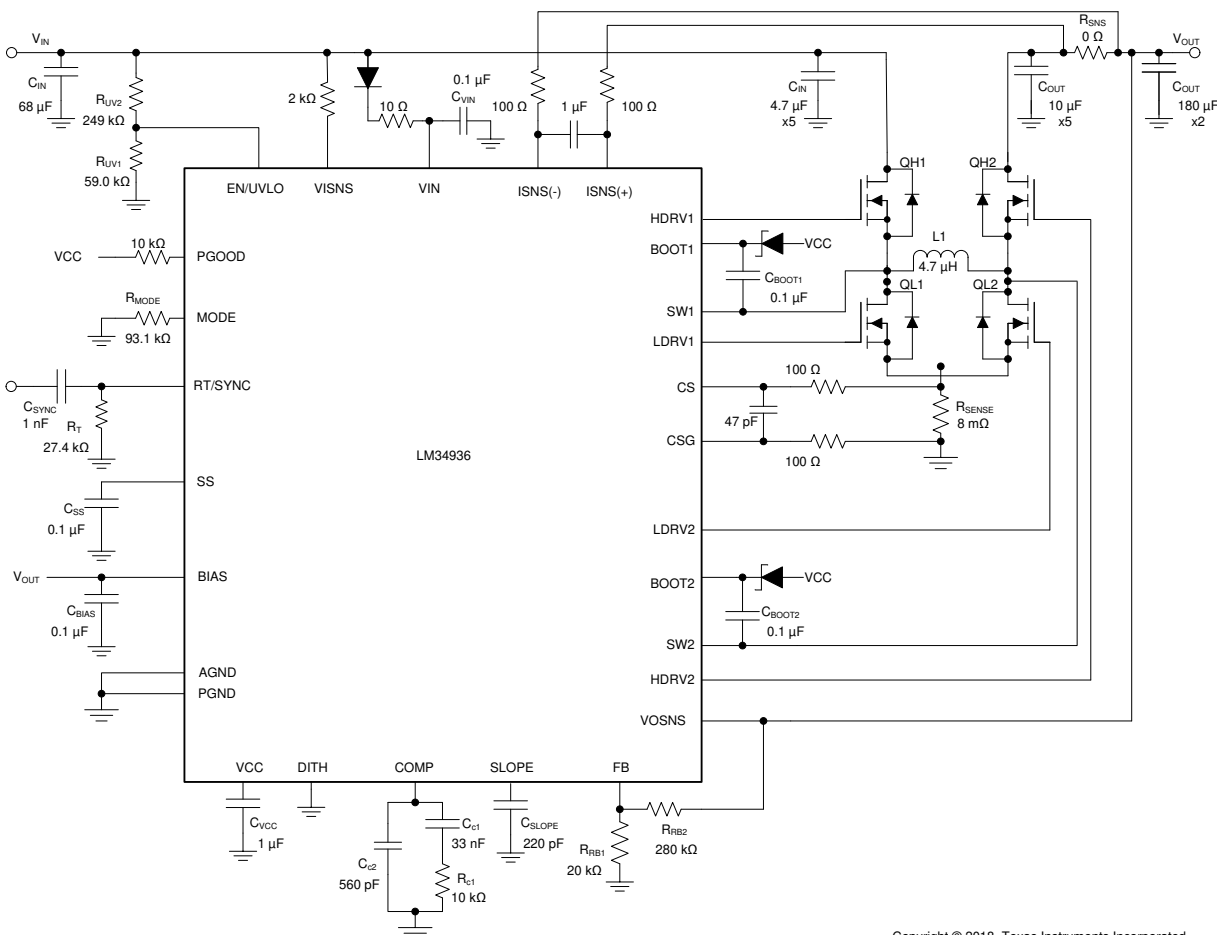

Figure 8-1. LM34936 Four-Switch Buck Boost Application Schematic
A filter network as shown in Figure 8-1 is often used across ISNS(+) and ISNS(-) pins to filter the ripple in the average current sense signal.
For application where input voltage is higher than 28 V, a 2 kΩ resistor in series with the VISNS pin is required as shown in Figure 8-1.
The LM34936 has a gm error amplifier for loop compensation. The gm amplifier output (COMP) range is 0.3 V to 3 V. Connect an R_{C1} - C_{C1} compensation network between COMP and ground for type II (PI) compensation (see Figure 8-1). Another pole is usually added using C_{C2} to suppress higher frequency noise and switching frequency ripple.
The low-side gate drivers are powered from VCC and the high-side gate drivers HDRV1 and HDRV2 are powered from bootstrap capacitors C_{BOOT1} (between BOOT1 and SW1) and C_{BOOT2} (between BOOT2 and SW2) respectively. The C_{BOOT1} and C_{BOOT2} capacitors are charged through external Schottky diodes connected to the VCC pin as shown in Figure 8-1.
Typically a combination of ceramic and bulk capacitors is needed to provide low ESR and high ripple current capacity. The complete schematic in Figure 8-1 at the end of this section shows a good starting point for C_{OUT} for typical applications.
The maximum RMS current occurs at $D = 0.5$, which gives $I_{\text{CIN(RMS)}} = I_{\text{OUT}}/2 = 3 \text{ A}$. A combination of ceramic and bulk capacitors should be used to provide short path for high di/dt current and to reduce the output voltage ripple. The complete schematic in Figure 8-1 is a good starting point for C_{IN} for typical applications.
For some application circuits, it may be required to add a filter network to attenuate noise in the CS and CSG sense lines. Please see Figure 8-1 for typical values. The filter resistance should not exceed 100 Ω .